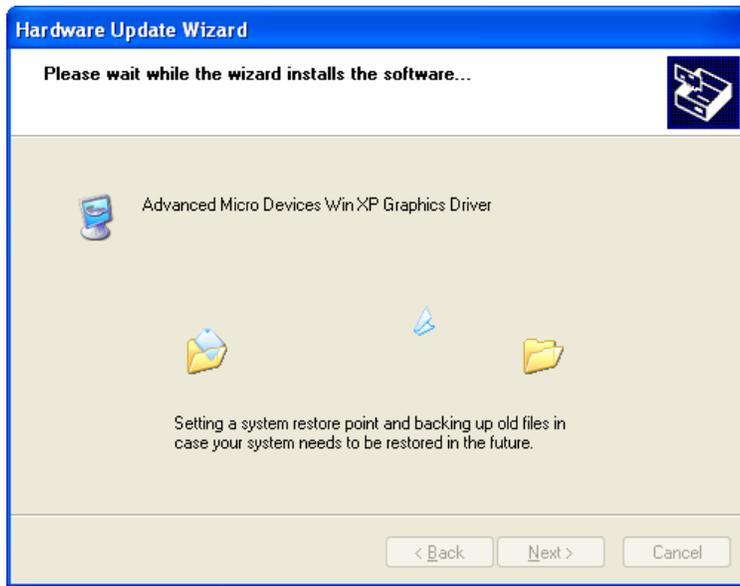

Figure 6-13: Driver Installation Window
Step 21: The following window (Figure 6-13) appears as the driver is installed.